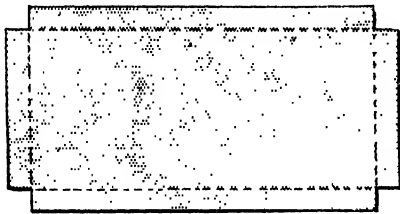

Fig. 557.—Iron Tray to receive Hearth Tiles.
the front of the tiles, making three sides of a frame and holding all tight. The kerb can then be laid down or lifted as required for cleaning, and the tiles can be lifted on removal day without any trouble. The narrow tiles, 6 in. by 2 in., are easily cut when necessary by notching them with the edge of a coarse half-round file straight across the back of the tile, and then snapping them with the two hands, just as one would break a piece of glass that has been marked with a diamond. It will be seen that by the above method no cement is required to bed the tiles in. (3) Procure a piece of sheet-iron, which should measure  $\frac{3}{8}$  in. more all round than the area to be covered by the tiles, and form it into a tray by cutting the corners as shown in Fig. 557 and turning up  $\frac{3}{8}$  in. of the edge all round. The tiles are then fitted tight in the tray, and the tray, with the tiles in position, simply laid on the hearth-